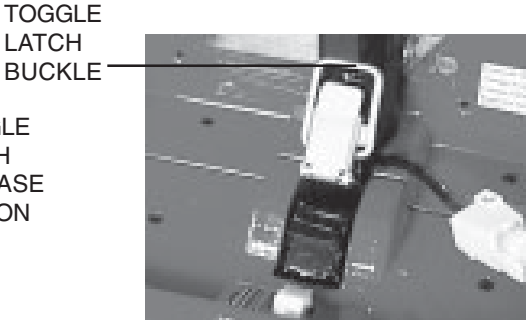

Figure 15A. Toggle Latch (Unlatched)
- 2. Rotate the toggle latch buckle over the top of the toggle latch until it snaps into its retainer. See figure 15A.